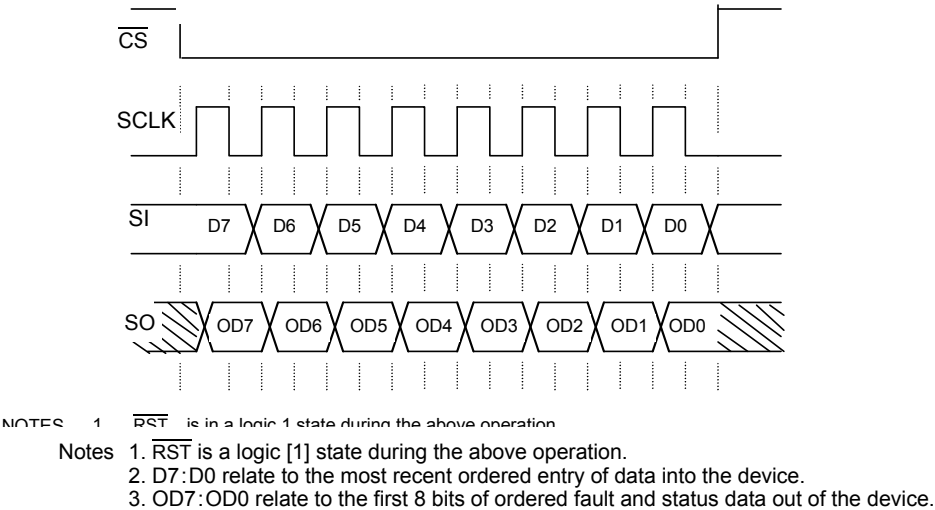
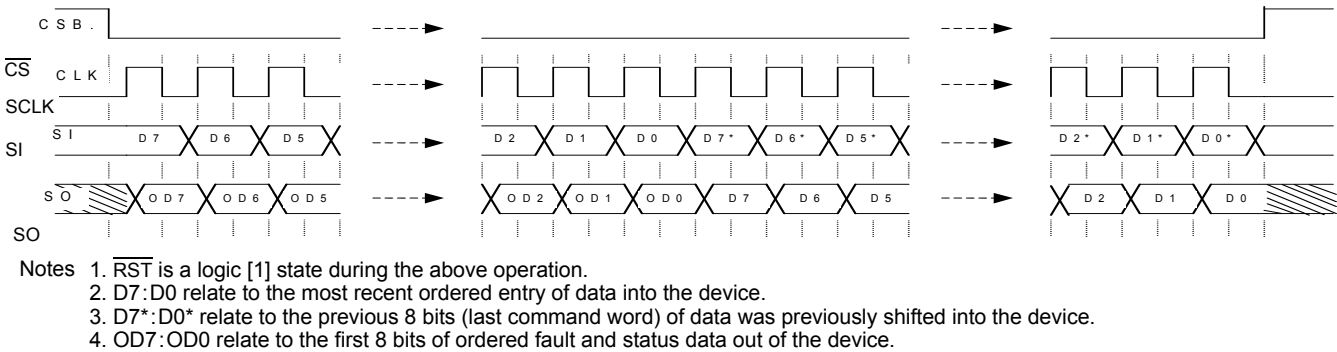

Figure 9. Single 8-Bit Word SPI Communication
Figure 10. Multiple 8-Bit Word SPI Communication
Serial clocks (SCLK) the internal shift registers of the 33984 device. The serial input (SI) pin accepts data into the input shift register on the falling edge of the SCLK signal while the serial output (SO) pin shifts data information out of the SO line driver on the rising edge of the SCLK signal. It is important the SCLK pin be in a logic low state whenever \overline{CS} makes any transition. For this reason, it is recommended the SCLK pin be in a logic [0] state whenever the device is not accessed (\overline{CS} logic [1] state). SCLK has an active internal pull-down, I_{DWN} . When \overline{CS} is logic [1], signals at the SCLK and SI pins are ignored and SO is tri-stated (high-impedance). See Figure 9 and Figure 10.